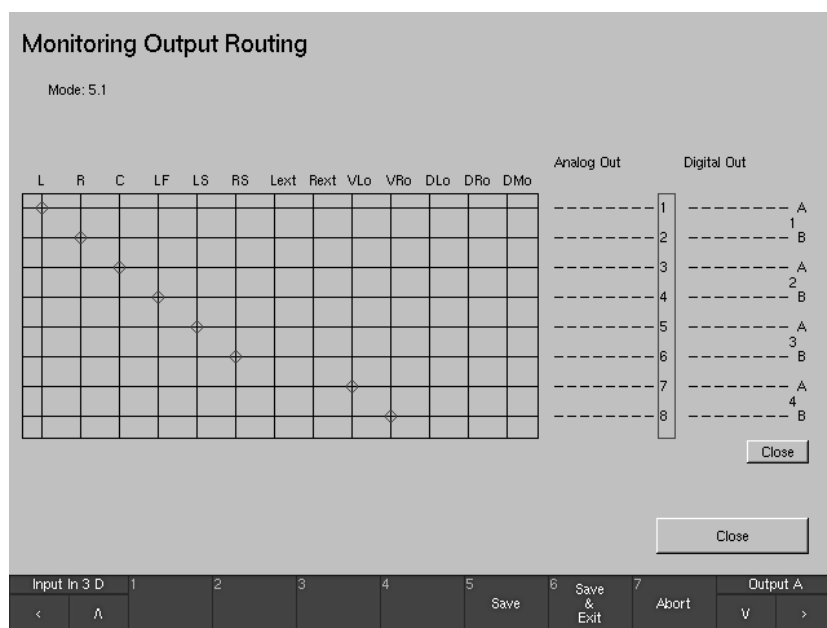

Fig. 4-19: Channel allocation matrix for the Monitoring Output Routing (Example: 5.1 format)
• **Monitoring Output Routing** (see Fig. 4-19)
This button opens a new menu page with the routing matrix in which the internal logical channels L, R and so on can be assigned to the physical outputs of the Monitoring analog Out (see Chapter 2.3.13) and Monitoring digital Out (see Chapter 2.3.14) connections (see Fig. 4-19). Available are in: